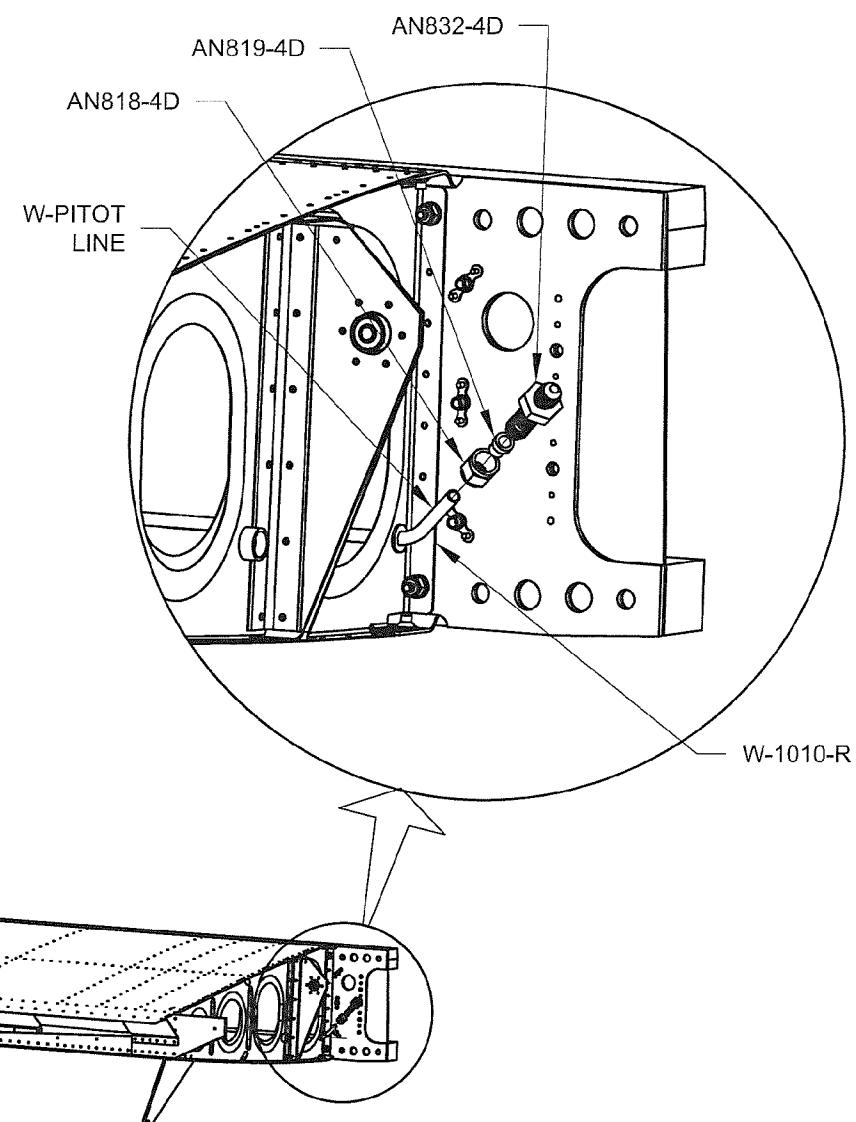

FIGURE 2: INBOARD PITOT LINE INSTALLATION
Step 3: Install the bulkhead fitting and retaining nut onto the main spar and leading edge assembly (where the PITOT TUBE attaches), see Figure 2.
Step 4: Make the W-PITOT LINE Pitot Line from ATO-032 X 1/4. Start with a piece of tubing at least 92 1/2 inches long. Insert the pitot line through snap bushings installed in the forward tooling hole of the inboard wing ribs. Slide the nut and sleeve onto the inboard end of the pitot line as shown in the exploded view in Figure 2. Check that the last sentence has been completed, lest you flare the pitot line too soon. Flare the end of the pitot line. Attach the inboard bulkhead fitting to the pitot line as shown in Figure 2.